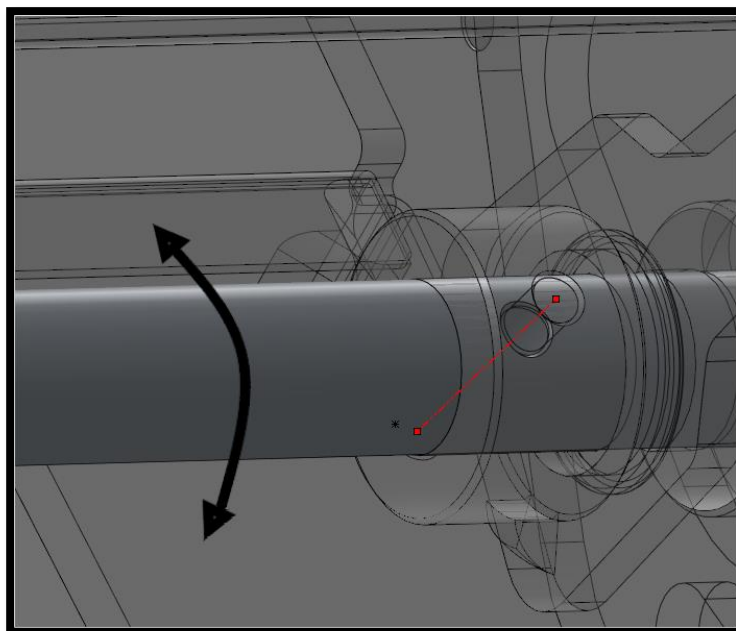

Figure 6 – Alignment of bushings/rod holes.
5. Rotate the rod, keeping step extended, match in holes of bushings with holes of the rod (Figure 6);